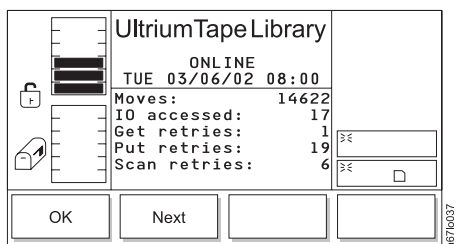

Figure 4-25. Statistics Dialog
4. To view usage statistics for the library, press the button below the **Next** softkey. The Statistics Dialog displays (see Figure 4-25) with the following information: